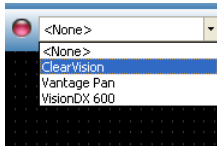

Figure 14: Selecting Progeny ClearVision™ sensor in Progeny Imaging
- Select ClearVision as shown on Figure 14.